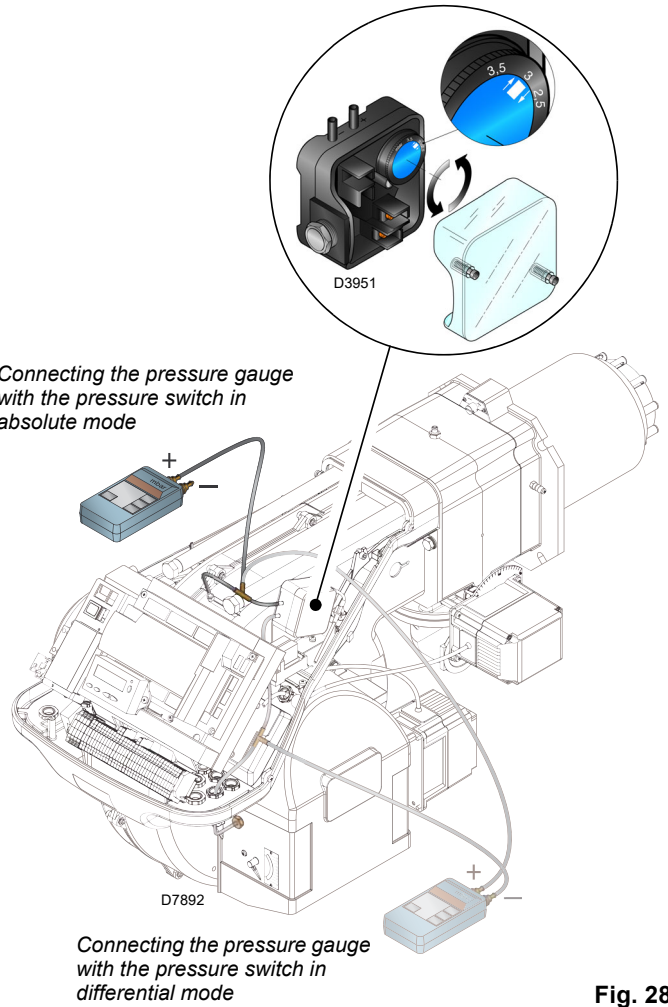

Fig. 28
- Adjust the air pressure switch (Fig. 28 at page 32) to the start of the scale.
Adjust the air pressure switch (Fig. 28) after having performed all other burner adjustments with the air pressure switch set to the start of the scale.
The connection of the pressure gauge is shown in Fig. 28. The standard configuration is that with the air pressure switch connected in absolute mode. Note the presence of a "T" connection, not supplied.
In this case also, the pressure gauge must be connected in differential mode, as shown in Fig. 28.